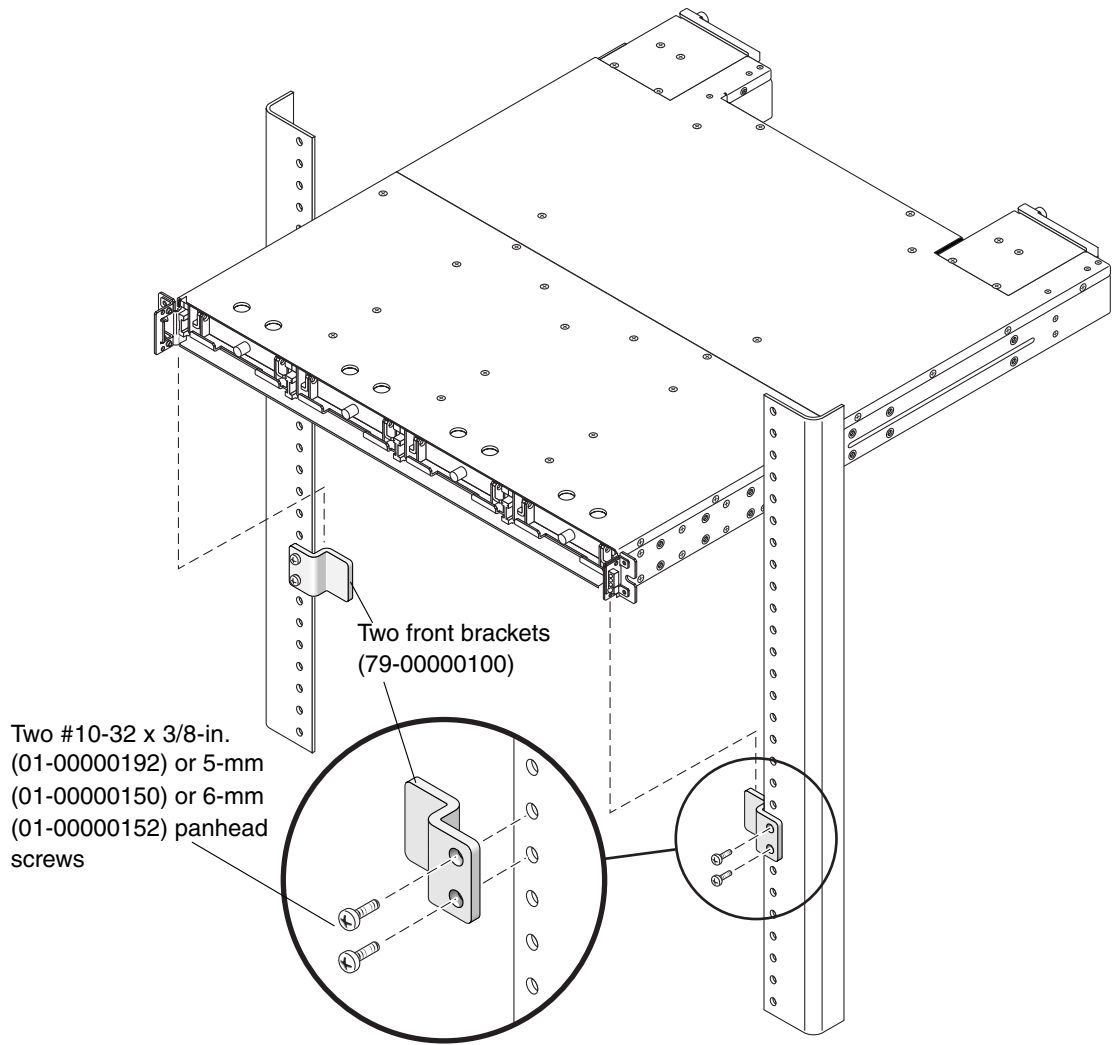

FIGURE 2-8 Front Bracket Position on the Rack Face
a. Attach each front bracket to the rack face (See FIGURE 2-8):